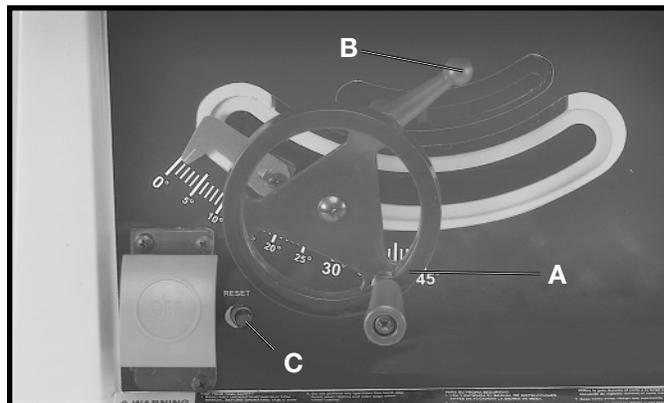

Fig. 39
Your saw is equipped with a reset overload relay button (C) Fig. 39. If the motor shuts off or fails to start due to over loading (cutting stock too fast, using a dull blade, using the saw beyond its capacity, etc.) or low voltage, turn the switch to the **“OFF”** position. Let the motor cool three to five minutes and push the reset button (C), which will reset the overload device. The motor can then be turned on again in the usual manner.
To raise or lower the saw blade, turn handwheel (A) Fig. 39. Turning the handwheel clockwise lowers the blade and turning the handwheel counterclockwise raises the blade.
**⚠ WARNING THE BLADE TILTING LOCK HANDLE (B) FIG. 39, MUST BE LOCKED DURING ALL CUTTING OPERATIONS.**